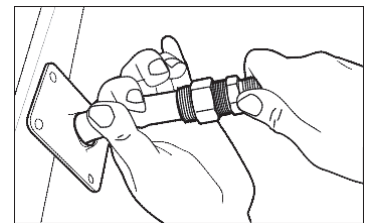
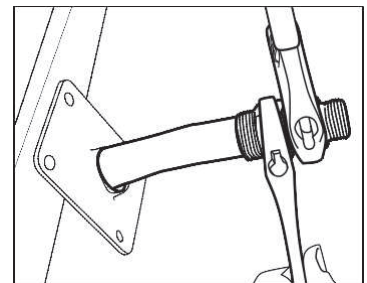

Figure: 4-10
Figure: 4-11
B. PIPE TO FITTING CONNECTION: Attach fitting to pipe following all instructions in step 5. **Figure 4-10** Once the fitting has been tightened to the pipe, slightly loosen this connection until the fitting can be rotated on the pipe. **Figure 4-11** Screw the fitting onto the flange and tighten. Holding the flange fitting nut, re-tighten the body. **Figure 4-12**